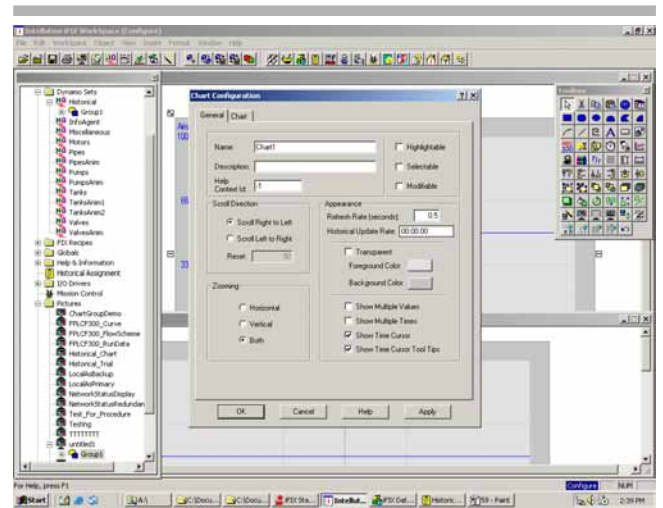

Fig 12.
- 6.2 Click and drag the chart into workspace. A chart configuration dialog box will open (Fig 12).